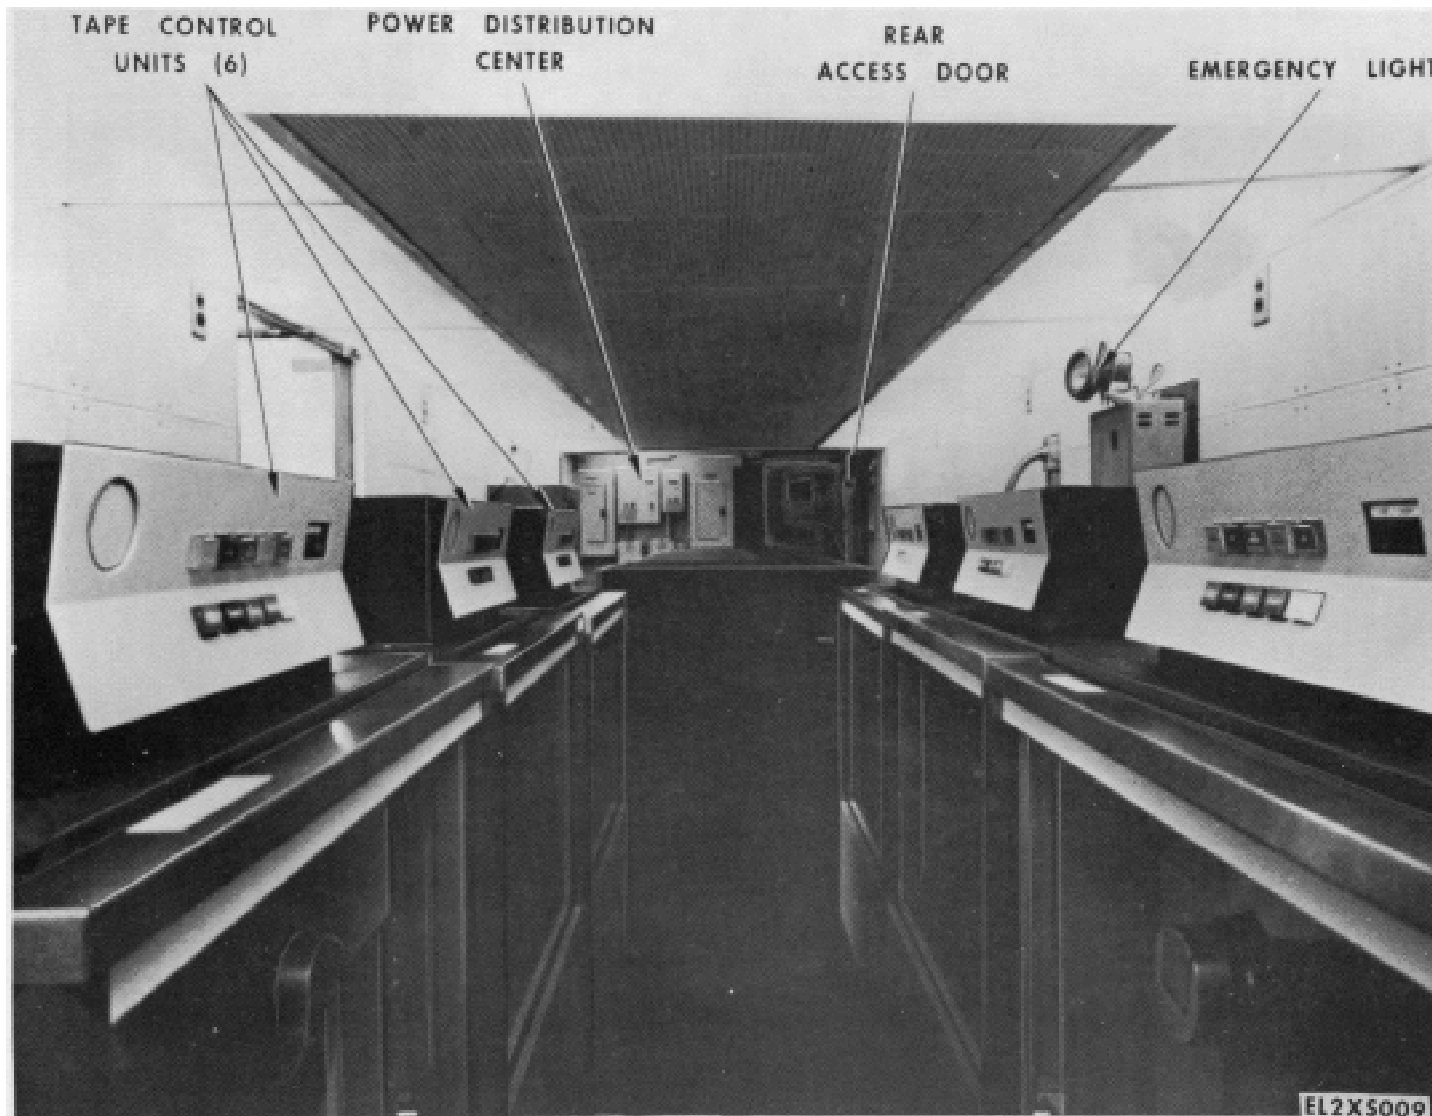

Figure 1-9. Data Storage Group OL-89(V)1/MYK-8(V), Interior Rear View
a. *Data Analysis Central OL-88(v)*/MYK-8(V) and Data Storage Group OL-89(V)*/MYK-8(V).* The vans which house the system electronics equipment are physically identical. These vans are fully insulated, weatherproofed, and fully transportable. The vans are designed for towing by an M-52, 5-ton truck tractor and for air delivery by a C-5A aircraft. Cushioned riding quality is provided by an air-spring suspension system which reduces shock and vibration in transit. Equipment in all vans except OL-88 (V)3 'MYK-8(V) is connected to hydraulic rams. Before transit, the hydraulic system moves the equipment to the center of the vans; upon arrival at site, the hydraulic system retracts the equipment to the van walls allowing personnel to move within each van. Figures 1-5 through 1-8 illustrate OL-88 (V) (1*) /MYK-8 (V), and figures 1-9, 1-10, and 1-11 illustrate OL-89 (V) () /MYK-8(V).